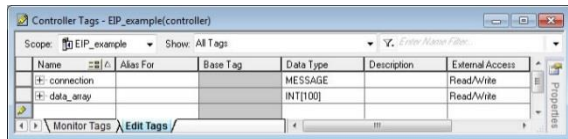

Figure 40: Create New Tags
b) The “Controller Tags” window appears. Refer to Figure 40.